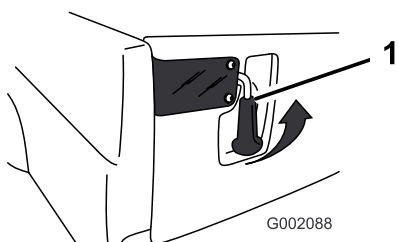

Figure 20
- To open the tailgate latches, push outward and lift the latch handles up (Figure 20). The latches will spring out toward the center of the tailgate. Slowly lower the tailgate.